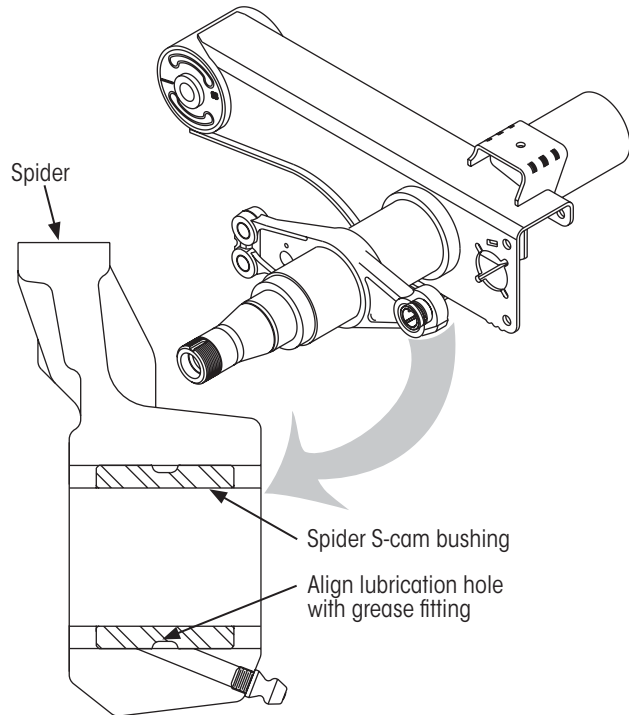

Figure 12: Spider S-cam bushing installation details
7. Orient the new bushing so its lubrication hole aligns with the grease fitting in the spider (Figure 12).